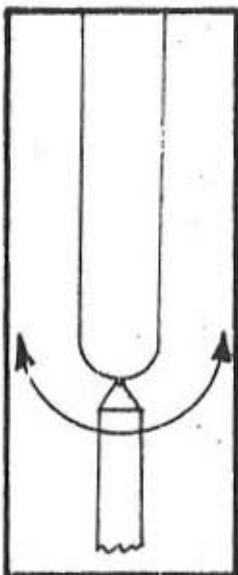

Fig. 10
Set the dresser to the operative position and lock, then move the lock lever (39) to the horizontal position facing right (release by drawing it clear of the spline and turning). To dress, release lockscrew (40) and swivel the assembly through 180 degrees, gripping the tail-end of lock lever (39) to give easier control. Fig. 10.